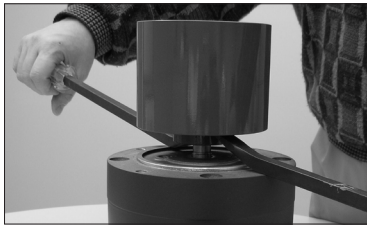

Figure 22
- Remove the drive magnet from the motor shaft by gently prying up from the bottom of the drive. See figure 22.